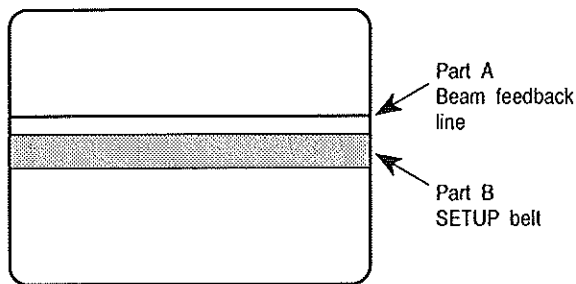

Fig. 4-4-2 State of SETUP "ON"
This monitor employs the beam feedback clamp method for long stability of black level, which clamps black level by detecting beam current. That is why 1 line appears at the upper part of the screen as shown in part A of fig. 4-4-2. If you lower BACKGROUND so that part B of fig. 4-4-2 is invisible, part A of fig. 4-4-2 disappears, beam current cannot be detected, and images disappears. Therefore, pay attention to adjustment of BACKGROUND.
- Turn ON the SETUP switch on the drawer panel to display as fig. 4-4-2.